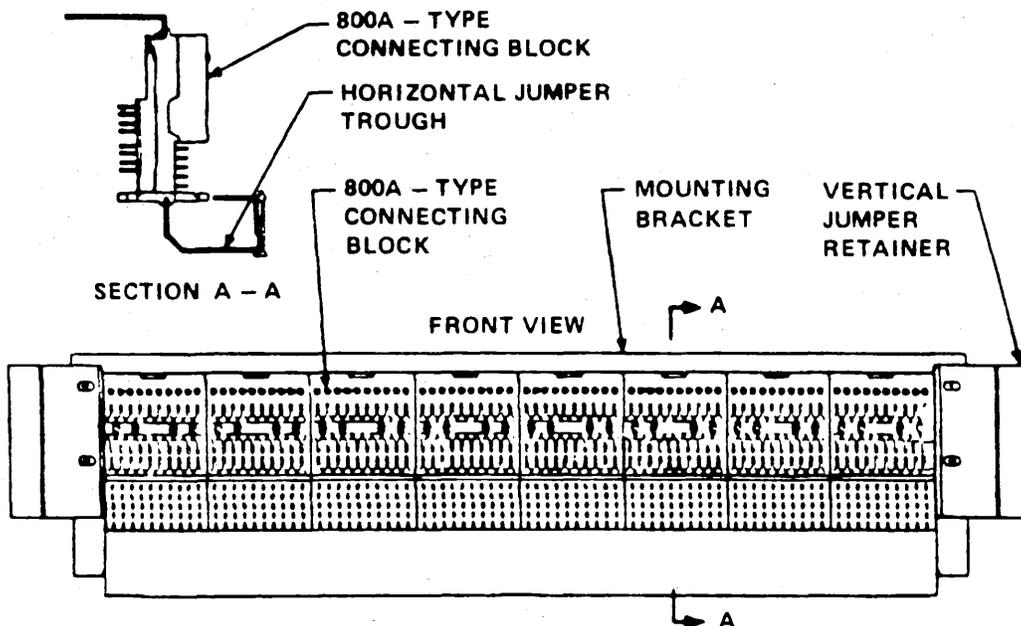

Fig. 2—800G1-A1 Circuit Panel
2.03 A typical 800G type connecting block panel assembly is 800G1-A1, shown in Fig. 2. See Table C for ordering information of the 800G type panels. The 800G type panels are available to provide any of the following: